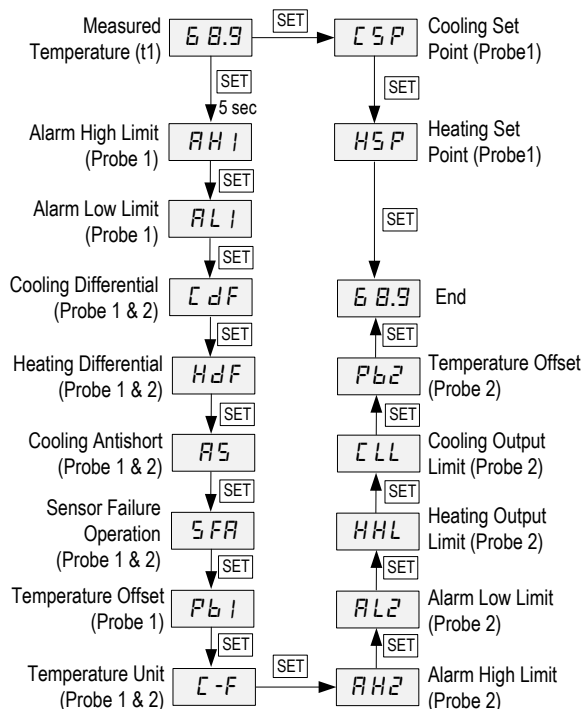

Figure 2. Flow chart of setting up parameters.
In normal display mode, press SET key to access the Cooling Set Point (**CSP**) and Heating Set Point (**HSP**). In normal display mode, press and hold SET key for 5 seconds to access the control parameters. Please see Figure 2 for the flow chart of how to access each parameter.
- 1) Follow the flow chart in Figure 2 to bring the parameter to the display window.